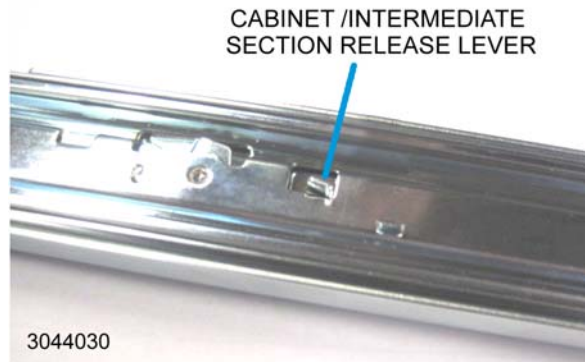

FIGURE 2. CABINET/INTERMEDIATE SECTION RELEASE LEVER
2. The slides are shipped retracted (fully closed). If the intermediate section is fully extended from the cabinet section it will lock. If it is locked, move the cabinet/intermediate section release lever (see Figure 2) as necessary to fully retract the intermediate section into the cabinet section.